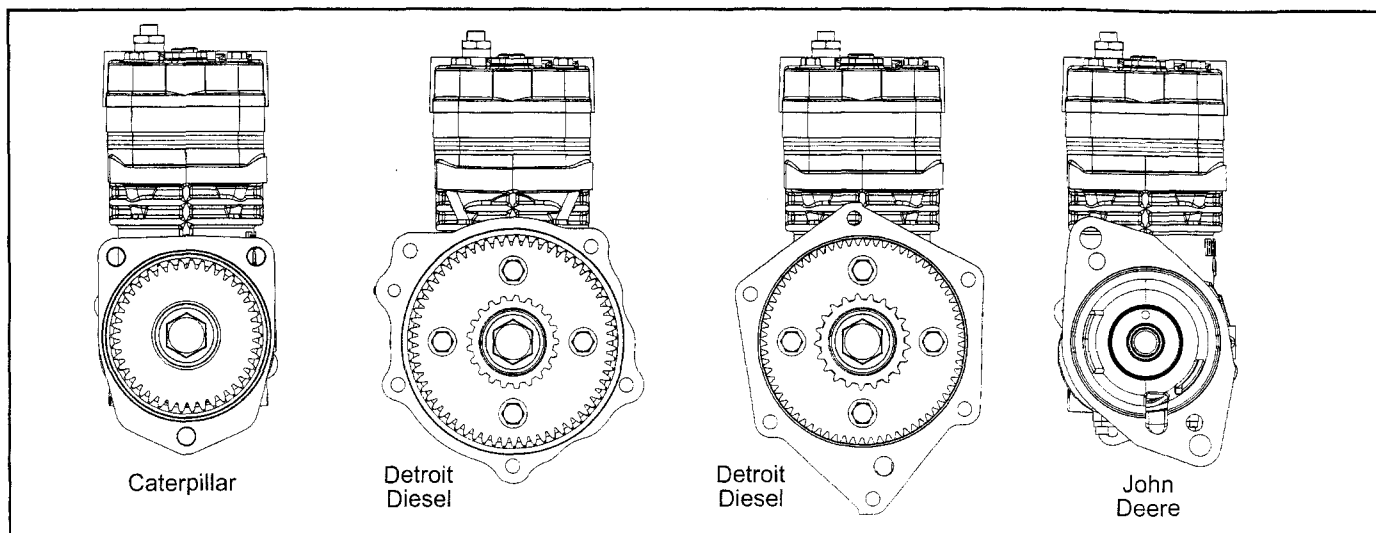

FIGURE 3 - TYPICAL COMPRESSOR DRIVE FLANGES
2. Make certain the unloader system lines are connected as illustrated in Figure 3.